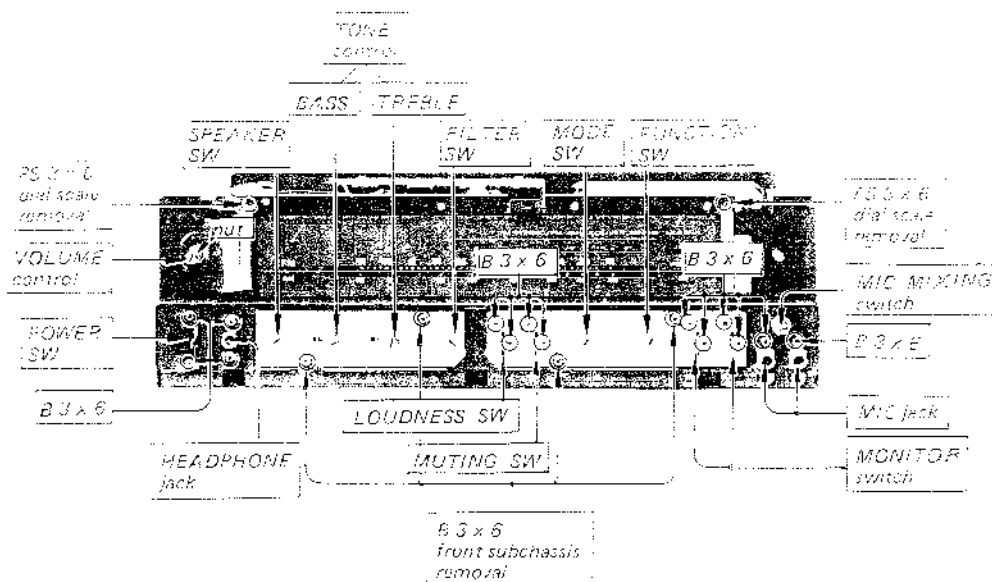

Fig. 2-7. Control, jack and switch replacement (1)
3. Remove the nut securing the VOLUME control to the front subchassis shown in Fig. 2-7.
1. Remove two screws at the nut securing the defective switch or jack to front subchassis as shown in Fig. 2-7.
1. Remove the securing nut securing the defective switch to front subchassis as shown in Fig. 2-7.
2. Fasten the drum pulley to defect switch lead with cellophane tape as shown in Fig. 2-7.
1. Remove the four screws (B 3 x 6) securing the control board bracket to the front subchassis as shown in Fig. 2-7.
3. Remove the nut securing the defective control or two screws (B 3 x 6) securing the defective switch to the control board bracket as shown in Fig. 2-7.